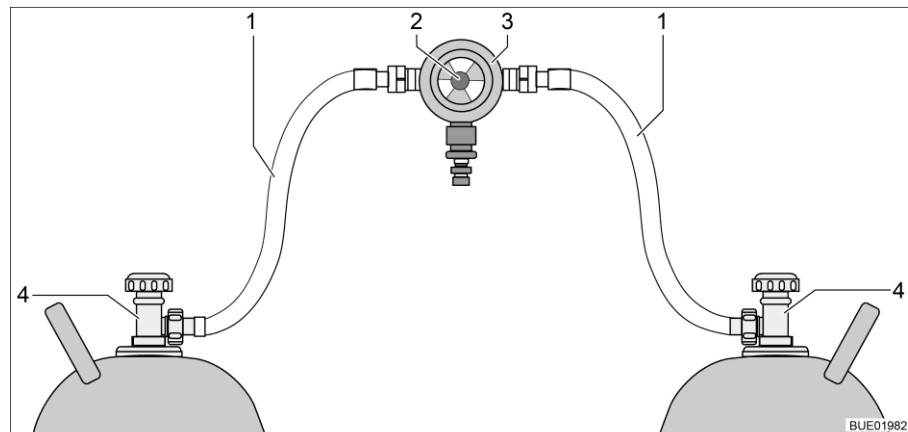
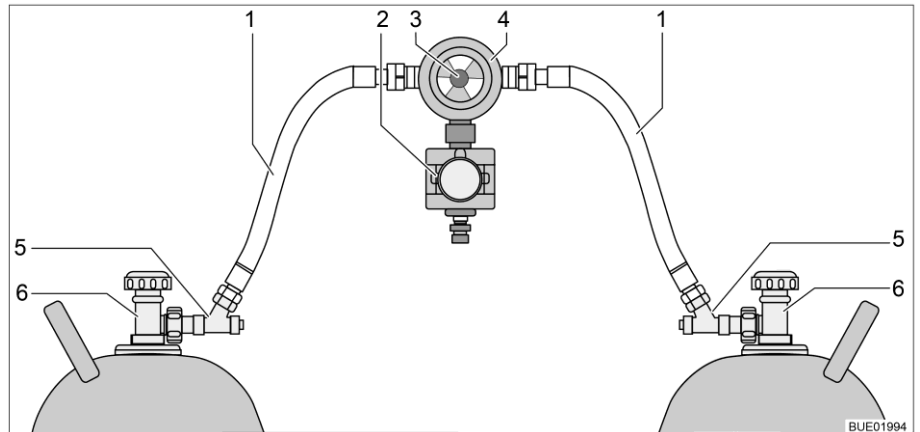

Fig. 182 Gas bottle switching facility
Fig. 183 Gas bottle switching facility with CPU
The gas bottle switching facility consists of a combined gas pressure regulator with reversing valve and indicator (Fig. 182,3). The gas bottle switching facility is installed between the two gas tubes (Fig. 182,1).
The gas bottle switching facility consists of a combined gas pressure regulator with reversing valve and indicator (Fig. 183,4), and an electrovalve (Fig. 183,2). The electrovalve blocks the gas supply to the vehicle in the event of a full braking, an accident, or an unusually great inclined position. The gas bottle switching facility is installed between the two gas tubes (Fig. 183,1) with hose break guards (Fig. 183,5).
Use the knob (Fig. 182,2 or Fig. 183,3) on the gas bottle switching facility to select which of the gas bottles is to be used as a primary bottle and which is to be used as a reserve bottle.
Only the electrical functions can be switched at the operating unit (Fig. 184). The regulator taps on the gas bottles (Fig. 182,4 or Fig. 183,6) must be opened and closed manually.
- Open the regulator taps of the gas bottles (Fig. 182,4 or Fig. 183,6).
- Press the hose break guards (Fig. 183,5) successively for 10 seconds.
- Use the knob (Fig. 182,2 or Fig. 183,3) on the switching facility to select the gas bottle which is to be the primary source of gas (primary bottle). Always turn the knob as far as it will go.
- Close the regulator taps of the gas bottles (Fig. 182,4 or Fig. 183,6).